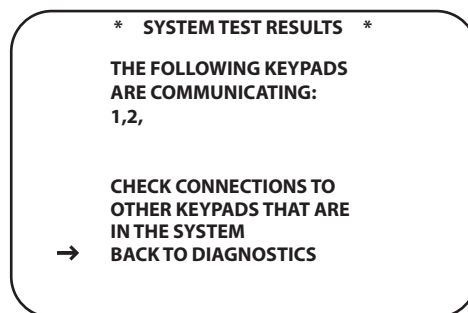

Figure 80.
4. With the cursor next to **RUN SYSTEM TEST**, press the **Set Button 18**. The **SYSTEM TEST RESULTS** screen will appear (**Figure 80**).